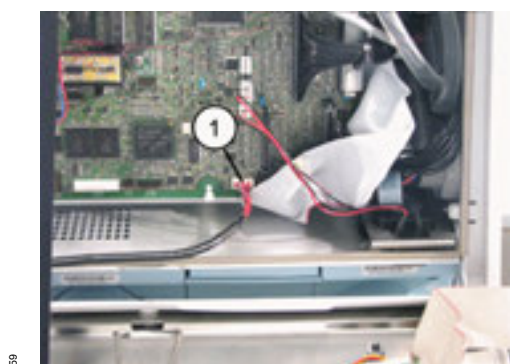

Fig. 47 Detail view of Central Control Board: Cable socket
- 5 Disconnect the cable socket (Fig. 47/1) from the Central Control Board.